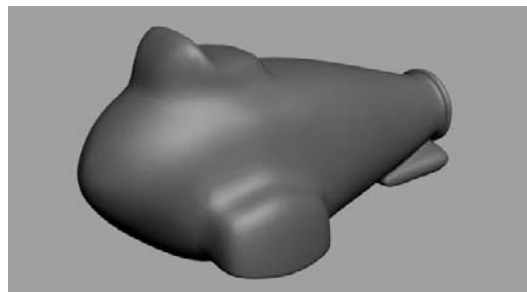

Figure 5.90
9. Unhide the exhaust and the fins. Make sure everything lines up, and render if you'd like (Figure 5.90). (See Chapter 11, "3ds Max Rendering," for more about rendering.)